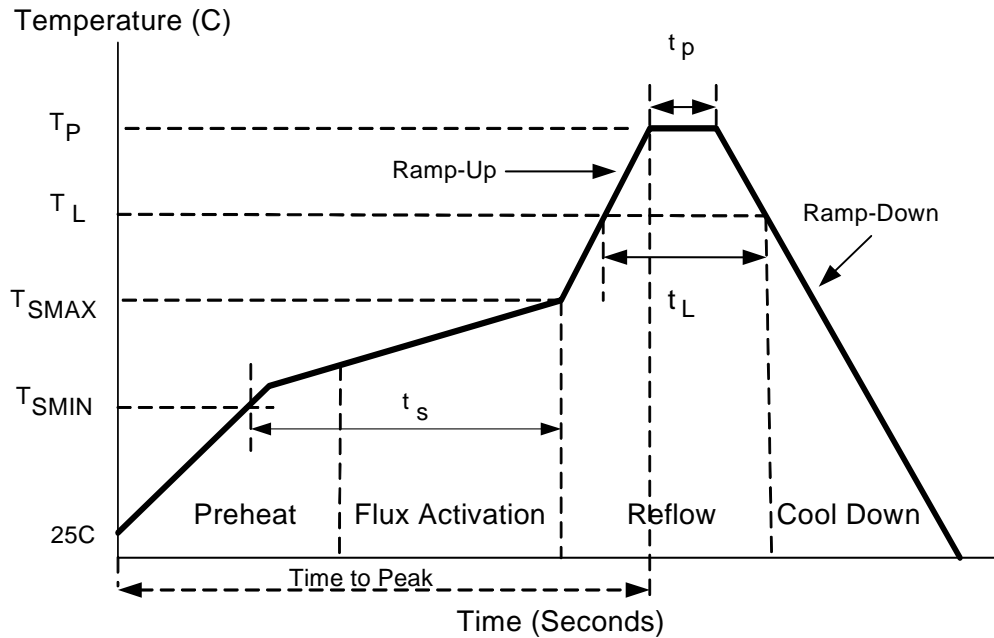

Figure 1. Temperature Profile for Infrared or Convection Reflow
2. FIGURE 1. TEMPERATURE PROFILE FOR INFRARED OR CONVECTION
Figure 1 and Table 1 show a sample temperature profile compliant to JEDEC standards. Different board designs use different number and types of devices, solder paste, reflow ovens, and circuit boards. No single temperature profile works for all possible combinations. One can use this example as a generic target to set up its own reflow process. Reflow process should adhere to the JEDEC profile limits as well as specifications and recommendations from solder paste manufacturer to avoid damaging the device and create a reliable solder joint.
2. Figure 1. Temperature Profile for Infrared or Convection Reflow